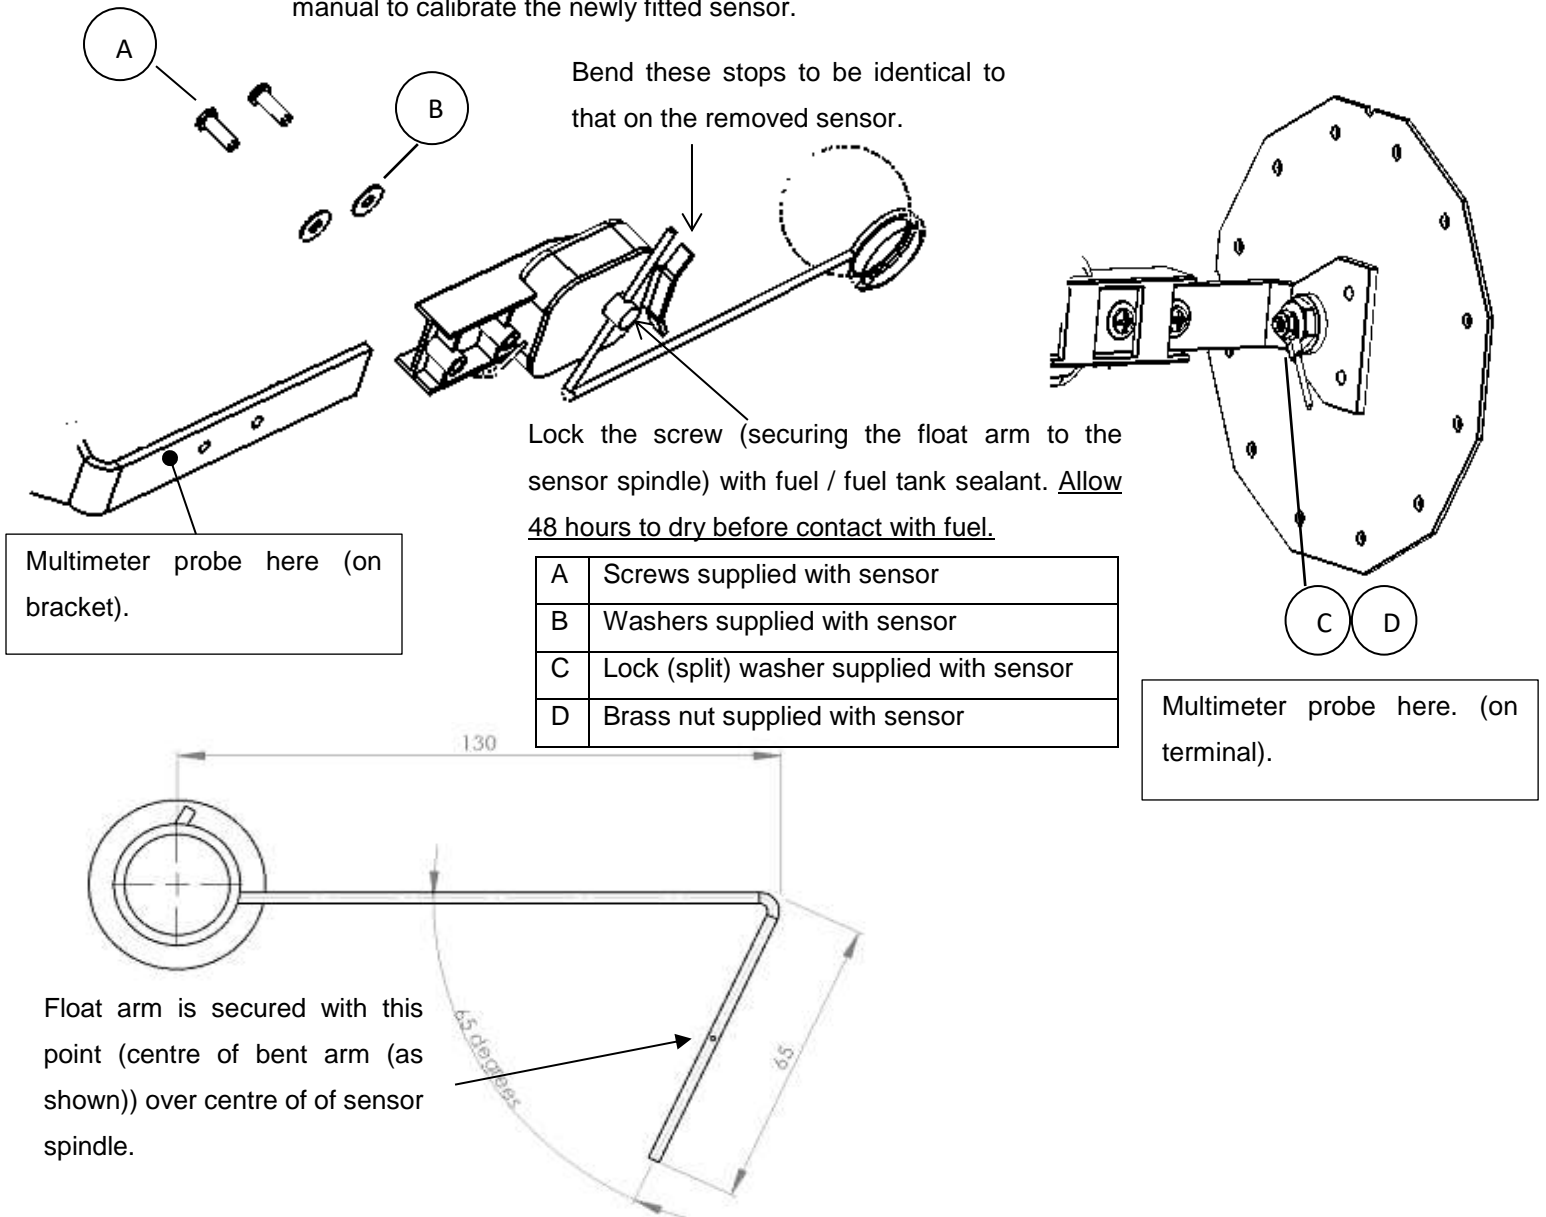

Figure 58: Fuel level sender assembly sensor replacement.
- Observe correct washer placement (refer to Figure 58).
- The sensor is fitted to the bracket with the spindle pointing away (in opposite direction) from the 90 degree bend / plate / part of the bracket attached to the hexagonal tank cover / sender assembly plate, i.e. spindle will face to rear when level sender assembly is installed in fuel tank. See Figure 58.
- (a) The float arm must be fitted to the new sensor with the same point (centre of bent part of arm) on the arm (as was over the centre of the spindle of the removed sensor) over the centre of the sensor spindle (refer to Figure 58). Use the marks made (during disassembly) on the float arm to assist in positioning the float arm before securing it to the sensor spindle.
- (b) Bend the float arm stops (refer to Figure 58) on the replacement sensor to be identical to that on the sensor which was removed.